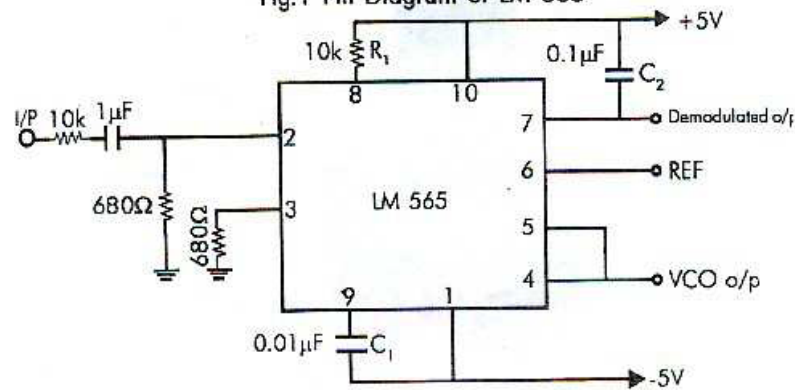

Fig.2 Circuit Diagram of LM 565
7. Connect the sampling circuit output to the reconstructing circuit shown in Fig 2
7. Feed PWM waveform to the circuit of Fig.2 and observe the resulting demodulated waveform.